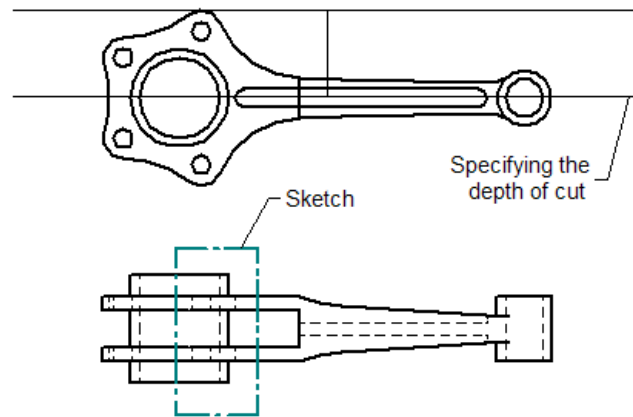

Figure 12-16 Specifying the profile and the depth of the cut
2. Draw the sketch, as shown in Figure 12-16. After drawing the sketch, choose the **Finish** button from the ribbon bar to exit.
3. Next, you are prompted to specify the distance for the depth of the cut. This distance can be specified in the **Depth** edit box present on the ribbon bar or on the other orthographic view, as shown in Figure 12-16. After specifying the depth of the cut, you are prompted to select the view that needs to be broken.